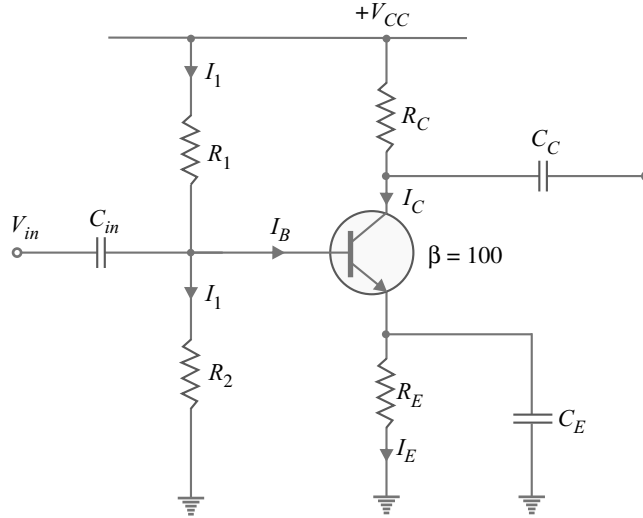

Fig. 10.2
An amplifier converts d.c. power drawn from d.c. supply  $V_{CC}$  into a.c. output power. The output power is always less than the input power because losses occur in the various resistors present in the circuit. For example, consider the  $R$ - $C$  coupled amplifier circuit shown in Fig. 10.2. The currents are flowing through various resistors causing  $I^2 R$  loss. Thus power loss in  $R_1$  is  $I_1^2 R_1$ , power loss in  $R_C$  is  $I_C^2 R_C$ , power loss in  $R_E$  is  $I_E^2 R_E$  and so on. All these losses appear as heat. Therefore, losses occurring in an amplifier not only decrease the efficiency but they also increase the temperature of the circuit.
**Example 10.1.** If in Fig. 10.2 ;  $R_1 = 10 \text{ k}\Omega$  ;  $R_2 = 2.2 \text{ k}\Omega$  ;  $R_C = 3.6 \text{ k}\Omega$  ;  $R_E = 1.1 \text{ k}\Omega$  and  $V_{CC} = +10 \text{ V}$ , find the d.c. power drawn from the supply by the amplifier.